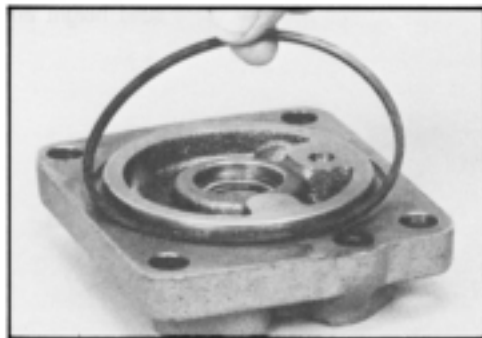

Figure 115
14. Coat each **new** seal ring liberally with clean grease for retention and assemble **new** seal ring (8), three **new** seal rings (16), **new** seal ring (19) in the appropriate recesses provided in adaptor (18). SEE FIGURE 115.